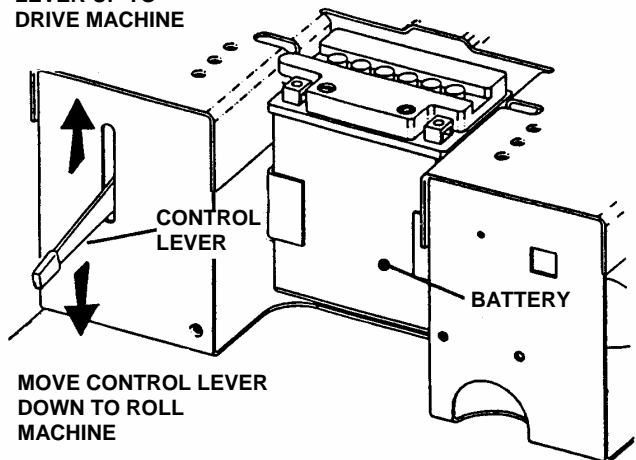

FIGURE 2.3
2.1.6. Add fuel to tank of the SCRAMBLER outside where fumes can safely dissipate. Refer to engine owner's manual for fuel specifications. Make sure fuel filler cap is tight and vent is open after refueling. See Figure 2.3. Open fuel valve located in fuel line.